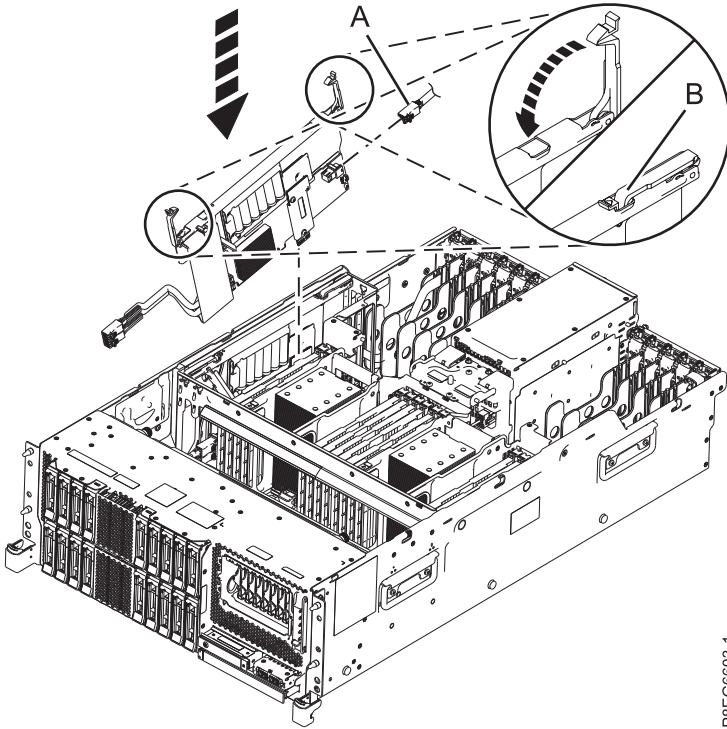

Figure 7. Replacing the PCIe3 x8 cache SAS RAID internal adapter 6 Gb
2. Reconnect the front SAS cable to the SAS RAID internal adapter front connector P1 before you install the adapter. Push the connector in until the connector latch clicks. The end of the cable that has the manufacturing label plugs into the disk drive backplane. See Figure 7 on page 10.
5. Reconnect the rear SAS cable **(A)** to the SAS RAID internal adapter rear connector, as shown in Figure 7 on page 10.
6. Complete the installation of the SAS RAID internal adapter by fully seating it now. Ensure that the adapter is installed on the locating pin. Push the blue handles **(B)** in the direction that is shown. See Figure 7 on page 10.